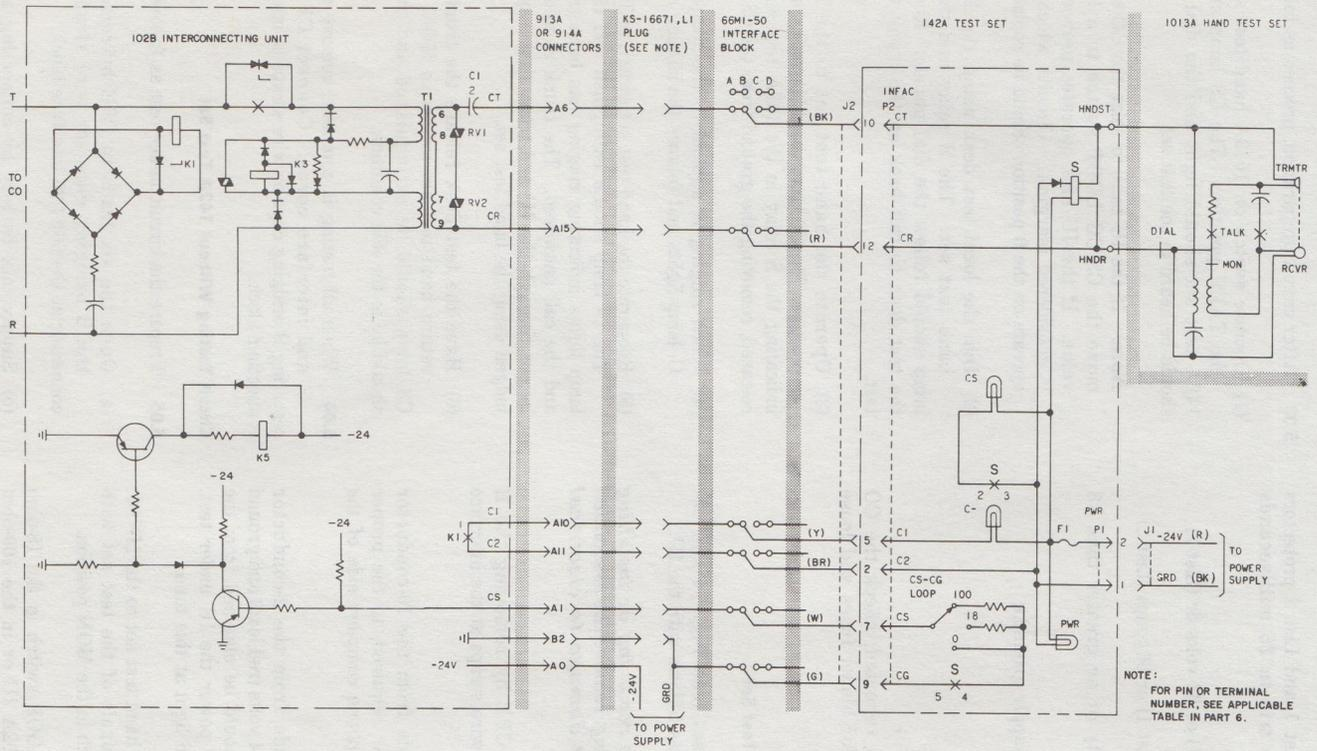

Fig. 14 Testing 102B Interconnecting Unit With 142A Test Set
**5.02** The 142A test set (see Fig. 14 and 15) should be set up as follows with the IU: